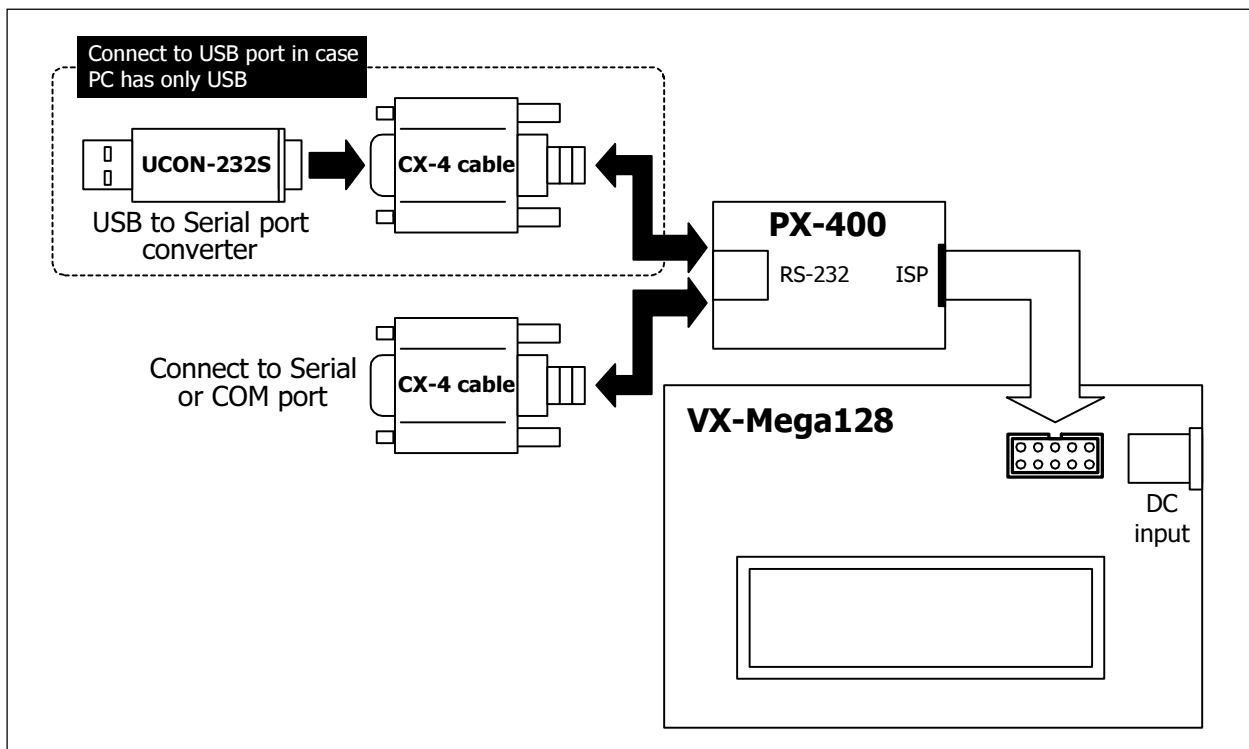

Figure 5 The diagram of Flash programming via ISP connector with PX-400 programmer
6.2.2 Connect PX-400 between Serial port and ISP connector on VX-Mega128 board. If your computer has only USB port, the USB to Serial port converter required. The UCON-232S is recommended. See the diagram in figure 5.